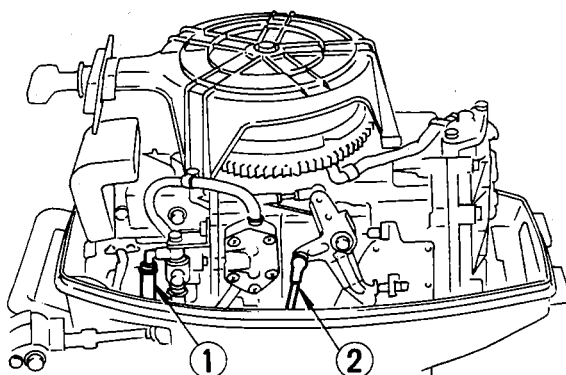

Fig. 20 The left (port) side of power unit
- (1) Choke link rod
- (2) Starter lock arm rod
- (3) Stop switch connector
- 5) Remove the handle link rod. (Fig. 20)